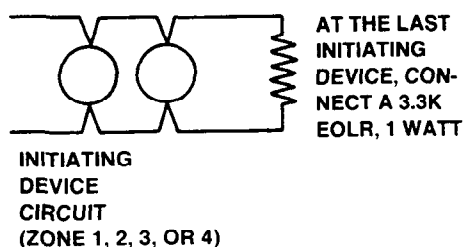

FIGURE 7
3. Install all peripheral devices (detectors, horns, pull stations, etc.) and connect them to the appropriate wires. (Refer to the installation instructions packed with the devices.) Connect a 3.3K-ohm end-of-line resistor (EOLR) across the terminals of the last device in each initiating circuit and mark the device accordingly (see Figure 7). Connect a 10K EOLR across the terminals of the last device in each notification appliance circuit and mark the device accordingly (see Figure 8).